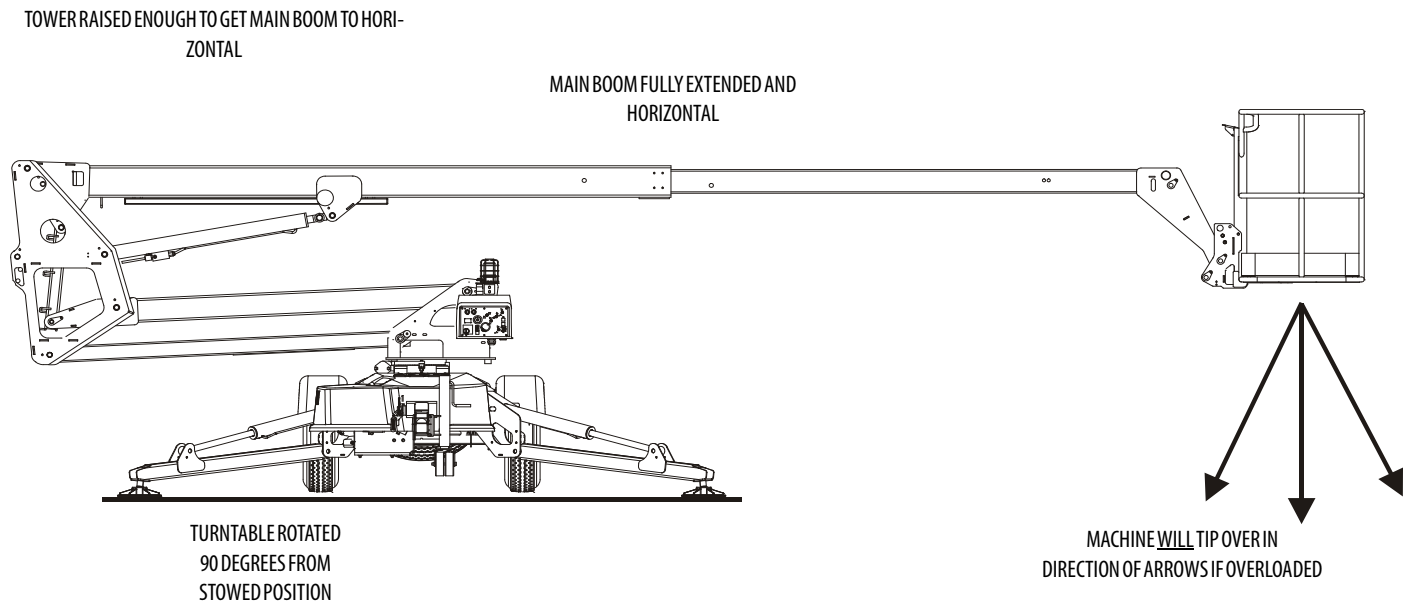
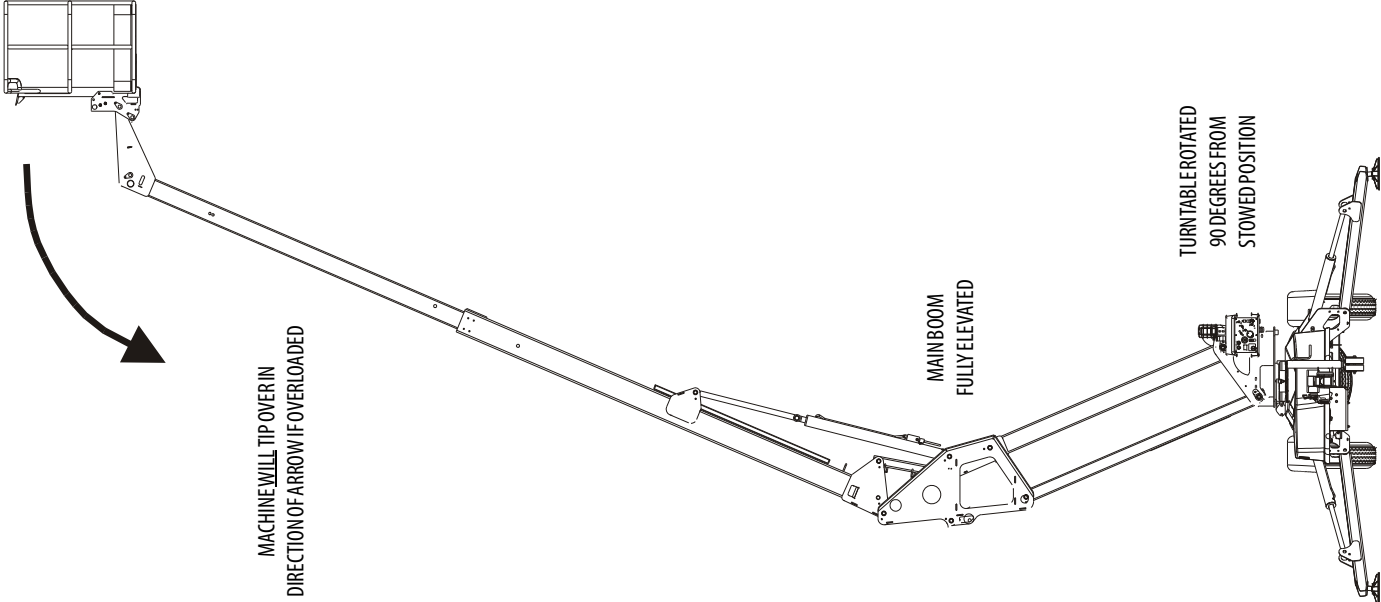

Figure 5-1. Position of Least Forward Stability (T350)
Figure 5-2. Position of Least Backward Stability (T350)
Machine stability is based on two (2) conditions which are called FORWARD and BACKWARD stability. The machine's position of least FORWARD stability is shown in (See Figure 5-1.), and its position of least BACKWARD stability is shown in (See Figure 5-2.)